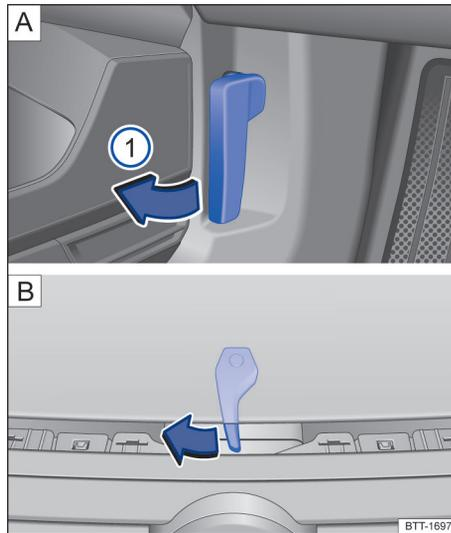

Fig. 167 **A** Bonnet release lever on the driver side footwell. **B** Bonnet release lever on the inner side of the bonnet.
- Ensure that the windscreen wiper arms are positioned on the windscreen before opening the bonnet → ①.
- Open the driver door and pull the release lever in the direction indicated by the arrow → Fig. 167 [A] ①. The bonnet is released from its lock by a spring mechanism → ⚠.
- To fully open the bonnet raise it slightly and at the same time press the release lever on the inner side of the bonnet in the direction indicated by the arrow → Fig. 167 [B] ②.